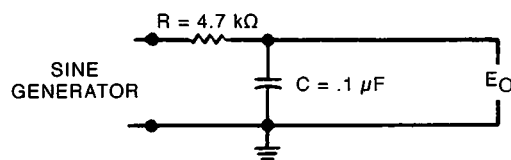

Figure 3-52
6. Disconnect the voltage divider circuit. Then construct the experimental circuit shown in Figure 3-52. Connect the resistor and capacitor on the circuit breadboard. Use hook-up wire to connect the circuit to the output of the signal generator. Set the generator range switch to the LOW position and adjust the frequency dial to the 200 Hz position.
7. Use the values of resistance and capacitance shown in Figure 3-52 to compute the cut-off frequency. Record your frequency below:
When you use the values in Figure 3-52 to compute the cut-off frequency of this circuit, you found it to be: